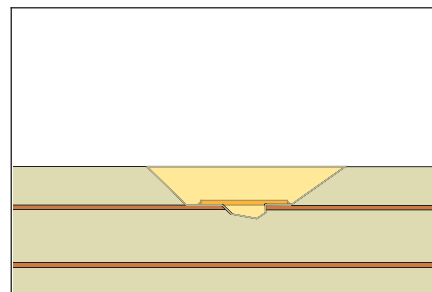

Figure 7 Completed repair.
18. Continue completing all layers until the top surface of the printed wiring board is reached. (See Figure 7.)